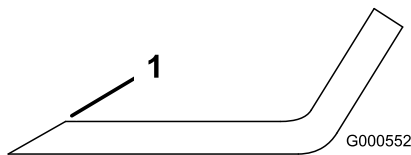

Figure 48
1. Use a file to sharpen the cutting edge at both ends of the blade (Figure 48).
Note: If the blade is not balanced, file some metal off only the end of the sail area (Figure 48).